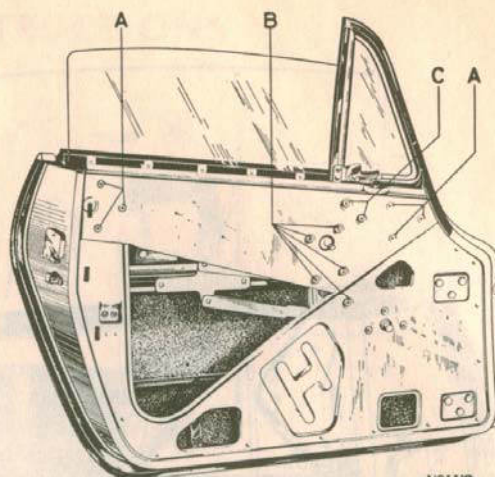
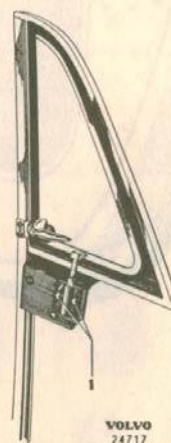

Fig. 11-6. Door with removable door plate
Fig. 11-7. Ventilation window
The ventilation window is attached by means of two screws to the upper door plate and with a loose plate on the front edge of the door. When removing, take off the window handle, upper door panel and plate on the front edge of the door and then unscrew the two screws on the upper inner door plate, Fig. 11-6, after which the ventilation window can be lifted up. The back edge of the ventilation window forms a guide for the main window. The end of the guide rests against a fixing catch attached to the door. When fitting, ensure that this catch locates in the guide. The catch is adjustable. The stiffness of the ventilation window in the open position can be adjusted by tightening the two screws (1) in Fig. 11-7.
When removing, detach the upper removable plate where it is fitted to the door and to the window, see Fig. 11-6, together with the ventilation window. Then unscrew the screw in the fixed lower inner plate on